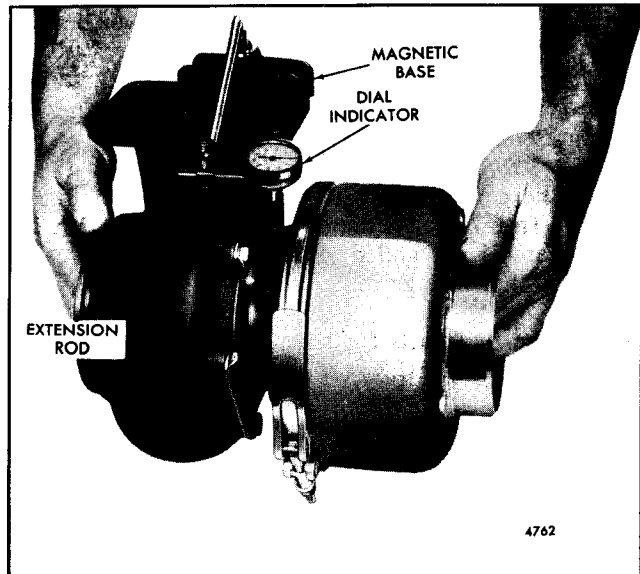

Fig. 10 - Checking Shaft Radial Movement
16. Position the turbine housing (6) as marked at disassembly against the center housing (26) and secure it in place with four clamps (5), four lockplates (4) and eight bolts (3). Tighten the bolts to 160-190 **lb-in** (18-22 Nm) torque. Bend the lockplate tabs up against the flat on the bolt heads.
17. Position the compressor housing (2) against the backplate assembly (14) and secure it in place with the "V" band coupling (1). Lightly lubricate the threads of the toggle bolt with engine oil and tighten the nut on the coupling to 30-45 **lb-in** (3-5 Nm) torque.
- a. Position the magnetic base J 7872-2 with the swivel adaptor J 7872-3 on the flat surface of the turbine housing inlet flange as shown in Fig. 10.